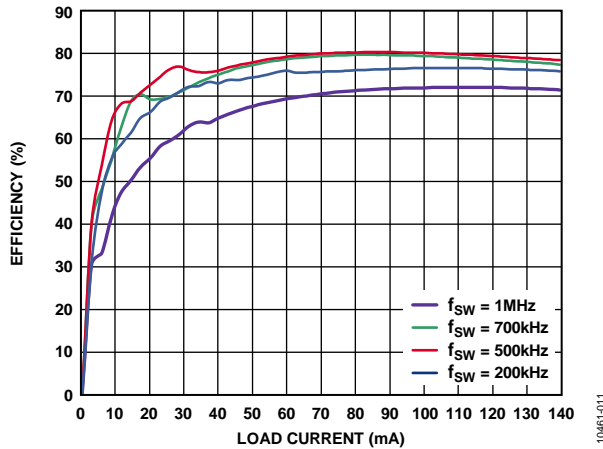
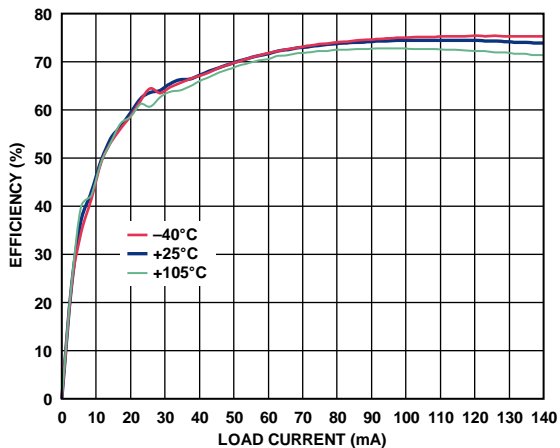
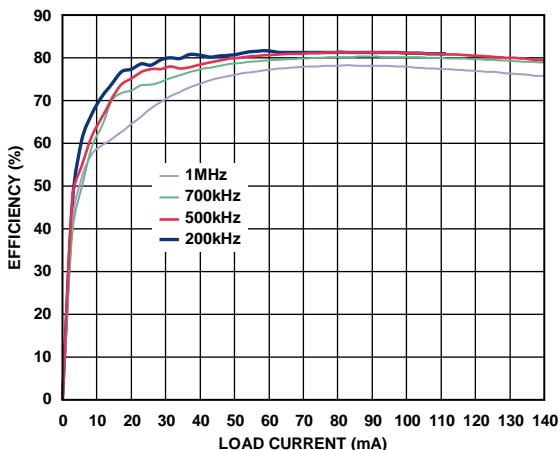
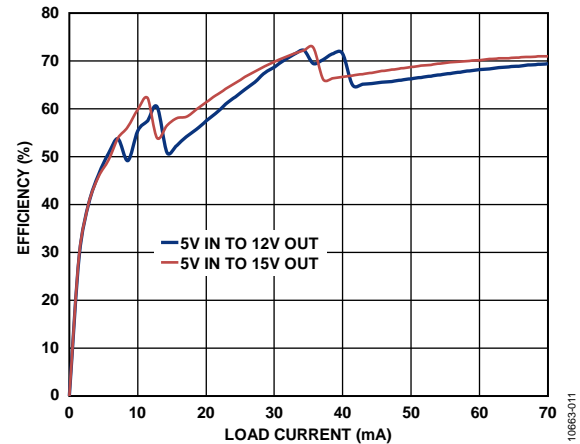

Figure 8. 5 V Input to 15 V Output Efficiency Using a 1CT:3CT Coilcraft Transformer (CR7984-CL) at Various Switching Frequencies
Figure 9. 5 V Input to 15 V Output Efficiency Using a 1CT:3CT Coilcraft Transformer (CR7984-CL) at 500 kHz and Various Temperatures
Figure 10. 5 V Input to 15 V Output Efficiency Using a 1CT:3CT Halo Electronics Transformer (TGRAD-590V8LF) at Various Switching Frequencies
Figure 11. Double-Supply Efficiency for Various Output Configurations Using a 1CT:5CT Coilcraft Transformer (CR7984-CL) at 500 kHz
Side 2 is powered by the secondary isolated 15 V supply. The ADuM4070 internal low dropout regulator converts this voltage to 5 V. The regulated 5 V supply powers the ADuM4070 secondary side. Therefore, the ADuM4070 V_{REG} pin is 15 V, and the V_{DD2} pin is 5 V. The 15 V supply connects to P7 (labeled OUT1). The 7.5 V supply connects to P9 (labeled OUT2). The Side 2 ground reference is tied to P10. See the ADuM4070 data sheet for an explanation of the double-supply theory of operation. Figure 8 through Figure 11 show efficiency curves for the double supply with the 15 V or 12 V isolated output supply connected to V_{REG} .
The EVAL-ADuM4070EBZ supports multiple transformer options. In the double-supply configuration, the board must be equipped with a Halo Electronics TGRAD-590V8LF (T2) or a Coilcraft CR7984-CL (T3) 1CT:3CT turns ratio transformer (see the ADuM4070 data sheet for details on transformer selection with the ADuM4070). Figure 8 and Figure 10 show the efficiency of the supply using a 1CT:3CT Coilcraft transformer (CR7984-CL) and a 1CT:3CT Halo Electronics transformer (TGRAD-590V8LF), respectively, at various switching frequencies. Figure 9 shows how temperature affects efficiency.
The user can select a different switching frequency by removing R12 and R13 and then choosing R18 based on Figure 3. The board is configured for the 500 kHz setting by default. Figure 8 and Figure 10 show how the switching frequency affects the efficiency of the supply using a Coilcraft transformer (CR7984-CL) and a Halo Electronics transformer (TGRAD-590V8LF), respectively.
In the double-supply configuration, the EVAL-ADuM4070EBZ board can be configured to have 12 V regulated and 6 V unregulated secondary isolated supplies by short-circuiting R11 with a 0 Ω resistor for R10. The regulated supply voltage is set by the fraction of it that is fed back to the ADuM4070 via the voltage divider comprising R6, R11, R15, and R10. The voltage at the feedback pin (FB) is 1.25 V. With R10 open-circuited, the ADuM4070 feedback voltage is approximately 1.25 V if V_{ISO} is 15 V. When R10 is short-circuited, the feedback voltage is approximately 1.25 V if V_{ISO} is 12 V (see the ADuM4070 data sheet for more information about setting the secondary isolated output supply voltage). Figure 11 shows the efficiency curves for both output settings at 500 kHz using a Coilcraft transformer (CR7984-CL).